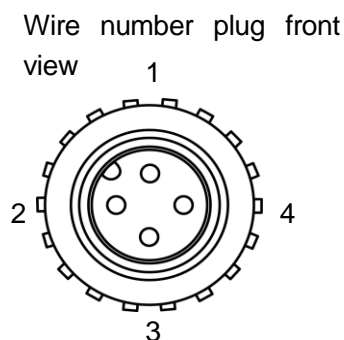
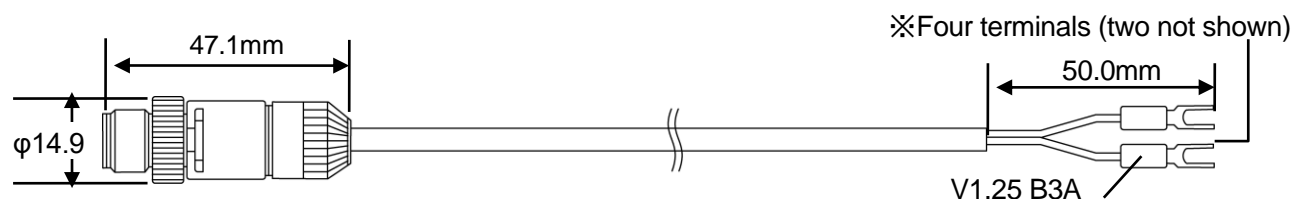

Fig. 8-2
Fig. 8-3
(1) Recorder Output (Fig. 8-2 and Fig. 8-3)